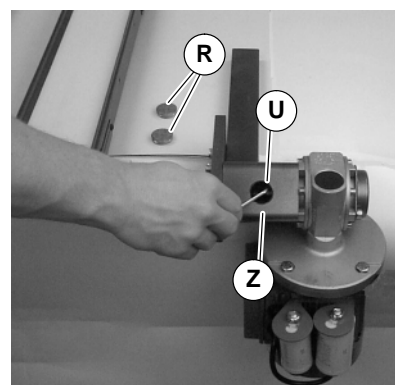

Figure 24
- 1.** Remove inspection plugs (R of Figure 24). Jog motor and rotate coupling to align set screws (U) with access hole (Z). Loosen set screw (U). Repeat for second set screw.